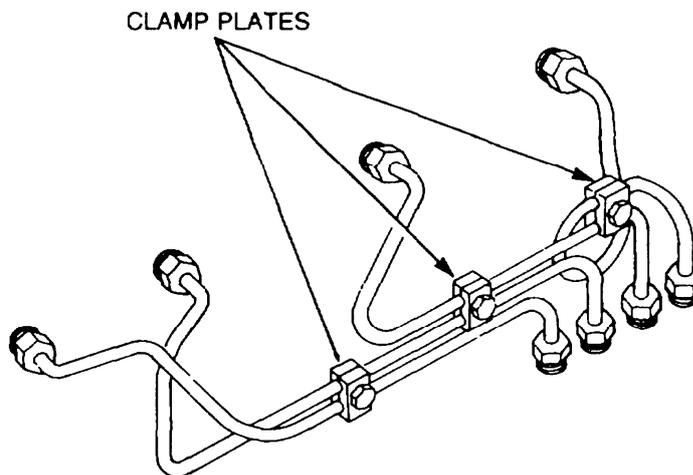

Figure 25 Clamp Plate Location
- d. Remove the clamp plates retaining the fuel line (Figure 25).